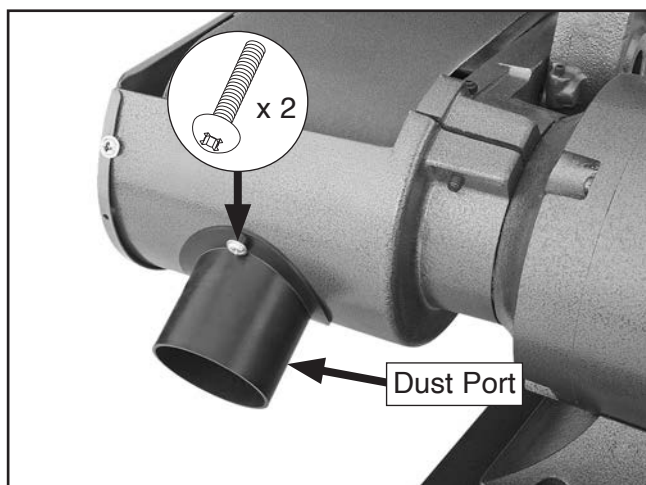

Figure 15. Dust port attached to sanding belt housing.
5. Attach 3" dust port to sanding belt housing with (2) $\frac{1}{4}$ "-20 x $\frac{1}{2}$ " Phillips head screws (see **Figure 15**).